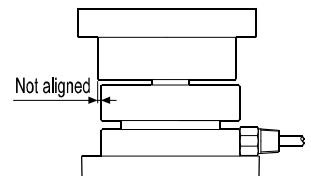

Figure 3.
- Attach the bearing plate with its center exactly on the load cell center. Check this by the position of the load cell and the guide ring. Their edges should be aligned. (See Figure 3)